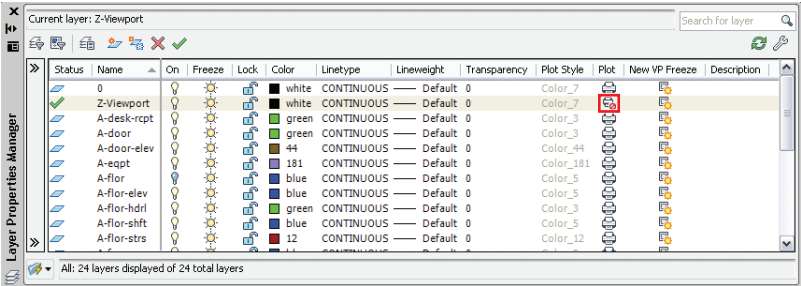

FIGURE 13.9 Creating a nonplotting viewport layer and setting it as current
3. Click the New Layer button in the Layer Properties Manager that appears. Type **Z-Viewport**, and press Enter. With the Z-Viewport line still highlighted, press Alt+C to make the new layer current. Click the printer icon in the Z-Viewport layer's Plot column to make this layer nonplotting (see Figure 13.9). Close the Layer Properties Manager.